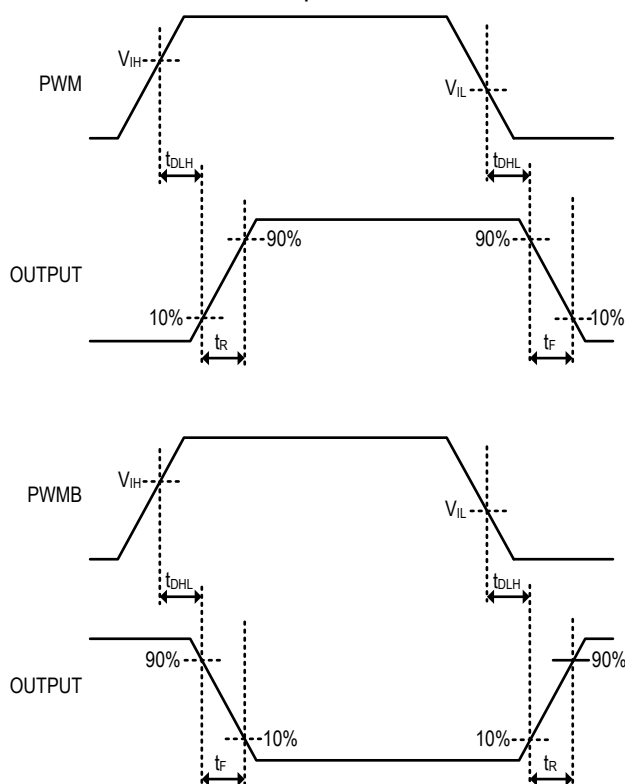

Figure 16. Circuit diagram of V_{DRV} regulation loop
It is often practiced reducing gate drive pull-up strengths in driving GaN FET switches by adding an external gate resistor, to prevent the large dv/dt induced switching spikes that deteriorates reliability and EMI. Then again, strong pull-down gate drive is always required because the fast slew rate of drain of GaN FET (SW) node may pull up the gate of the GaN FET and falsely turn it on. A traditional single gate drive can only have a single gate resistor that cannot optimize both requirements at the same time. In the INS1001, a split gate drive is provided, which allows the use of a large pull-up resistor and low pull-down resistor to achieve optimized efficiency, reliability, and EMI performance. Figure 16 illustrates the switching timing waveforms of the driver outputs.